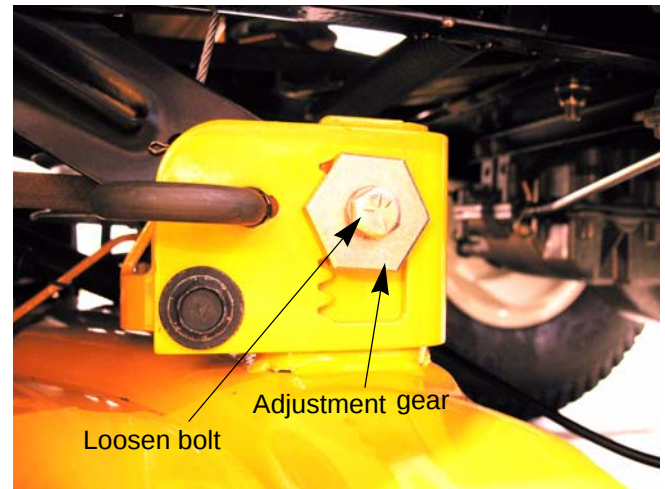

Figure 8.28
3. Working from the left side of the tractor, loosen, but do not remove, the bolt on the left deck hanger bracket. See Figure 8.28.
4. To even the deck turn the adjustment gear, located immediately behind the bolt, clockwise (rearward) to raise the left side of the deck. Turn the gear counter-clockwise (toward front) to lower the left side of the deck. See Figure 8.28.